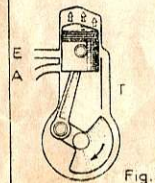
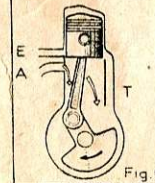

Fig. 5
Fig. 6
- D. Shows the mixture transferred to the cylinder head, see Fig. 5, with all ports closed by the piston and the cycle of operation about to recommence, see Fig. 6.